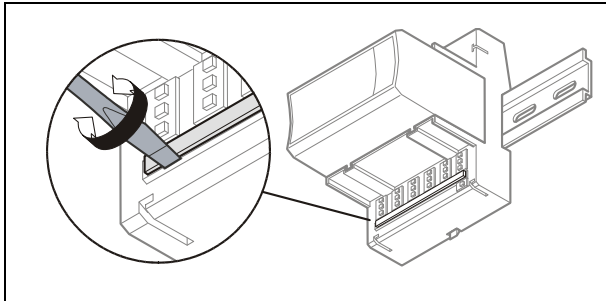

Fig. 28 Dismounting the cross connectors
**NOTE:** The cross connector (incl. in the delivery) can be mounted to the XS824-25 or XSU824-25, as required. It can be dismantled (see Fig. 28). It is not permitted to replace cross connectors with wire.